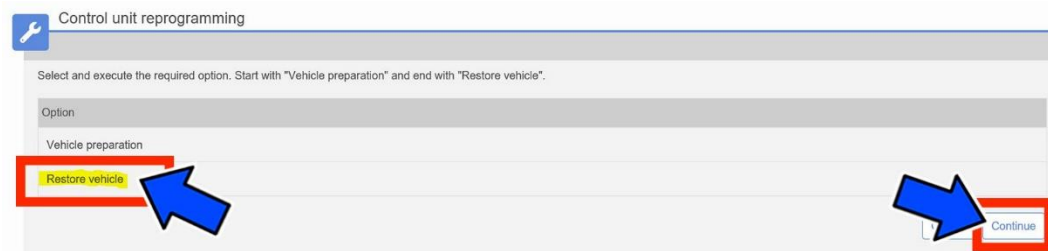

Figure 28 - Restore Vehicle
23. Select “**Restore Vehicle**” and then click “**Continue**” (Figure 28).